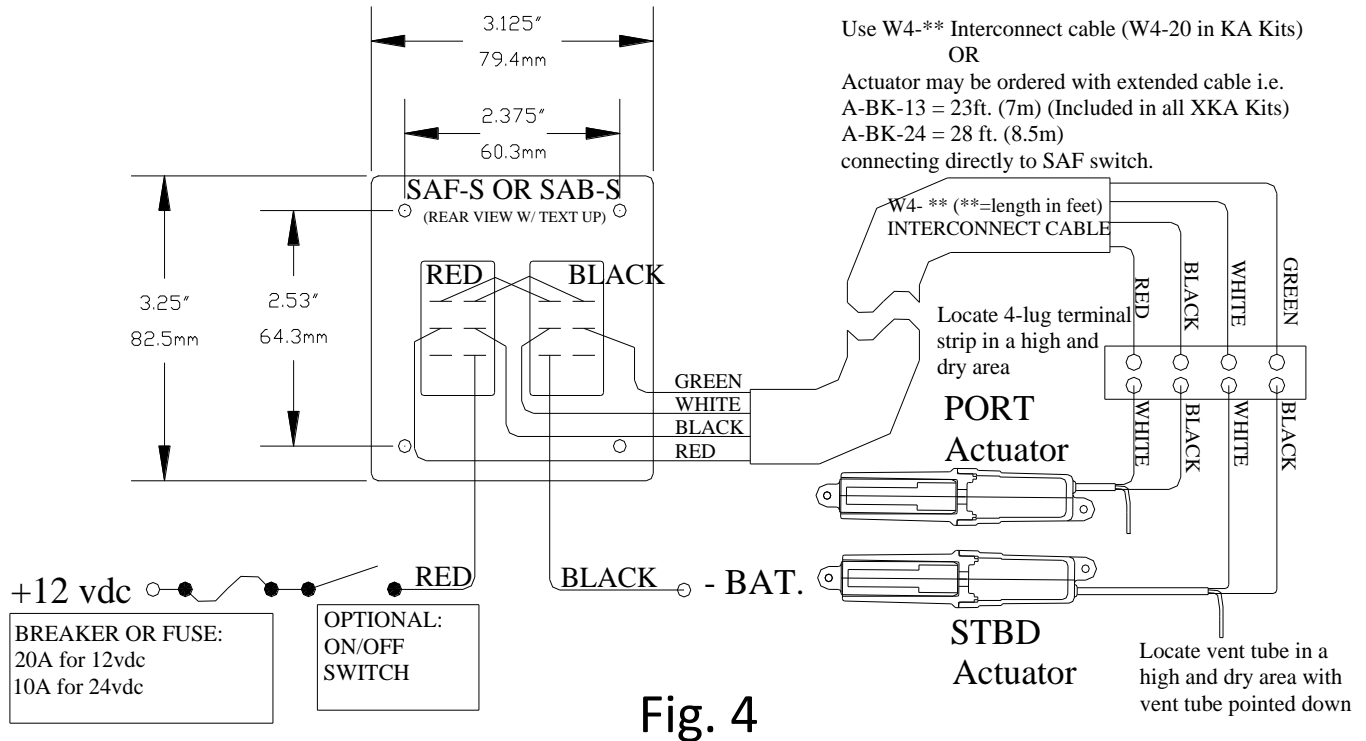

Fig. 4
1. KA Kits include actuators with 6' (1.8m) extended cable and 20' (6.1m) cable (W4-20) to attach from the actuators to the control switch (see Fig. 4). This cable is also available in longer lengths. Visit www.lectrotab.com for additional cable lengths listed under Products/Individual Parts and Accessories.
2. KA Kits include a hardware kit, which contains a terminal strip and terminals to connect the actuator cable to the 20' (6.1m), 4-conductor, 14 AWG (2.08mm sq.) cable (see Fig. 4). The cut end of the 20' (6.1m) cable may be routed starting where the control switch will be mounted. The 4 blue push-on terminals will connect to the rocker switch.
5. Crimp the fork terminals to the cut end of the black actuator cable and connect to the 4-lug terminal strip per Fig. 4.
6. Crimp the fork terminals to the cut end of the 4-conductor gray cable (W4-20) and attach to the 4-lug terminal strip per Fig. 4.
2. The blue, push-on terminal end of the 20' (6.1m), 4-conductor, 14 AWG (2.08mm sq.) cable connects to the rocker switch (KA Kits), or route the longer 23' (7m) actuator cable directly to the rocker switch (XKA Kits). Connect cable to switch as shown in Fig. 4.
3. Connect a fused 12vdc or 24vdc power source as shown in Fig 4. **Power source voltage must match the actuator voltage.**